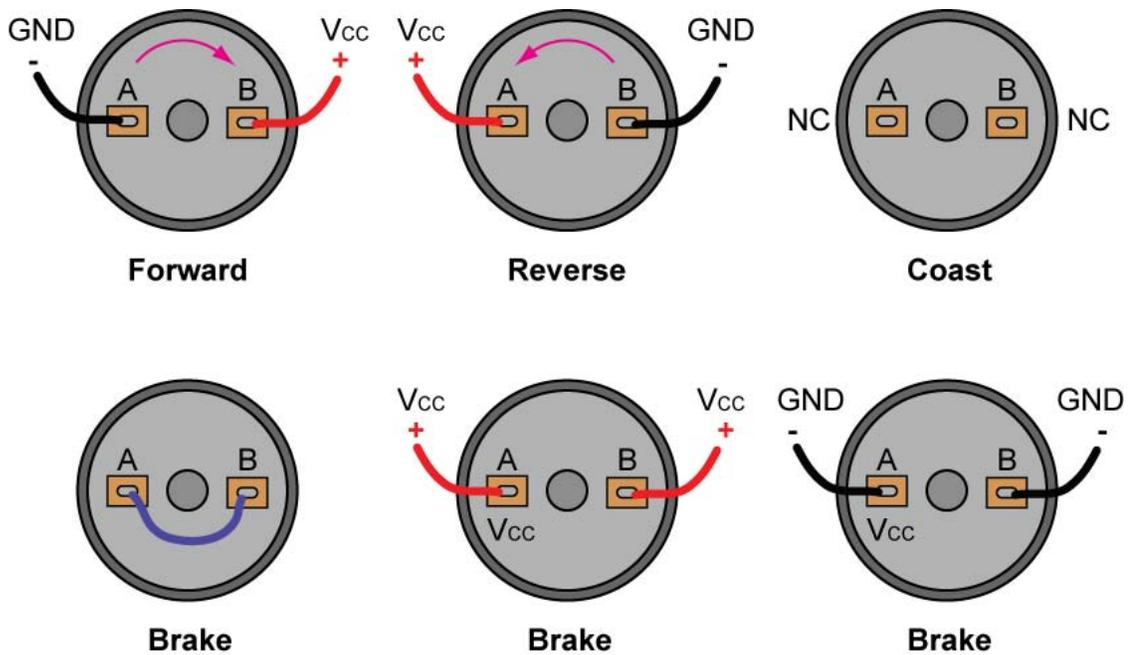

Figure 2: Four States of a DC Motor Output and Their Connections
- **Four States of a DC Motor Output with Terminals A and B (Figure 2):**